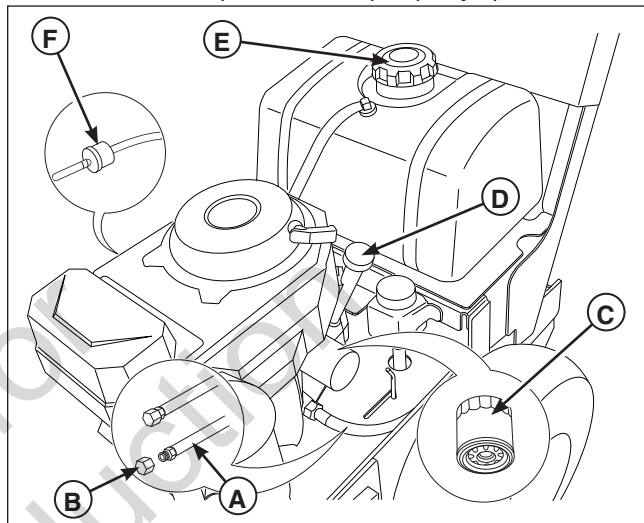

Figure 13. Engine Oil Drain
- Remove the fuel cap (E, Figure 13).